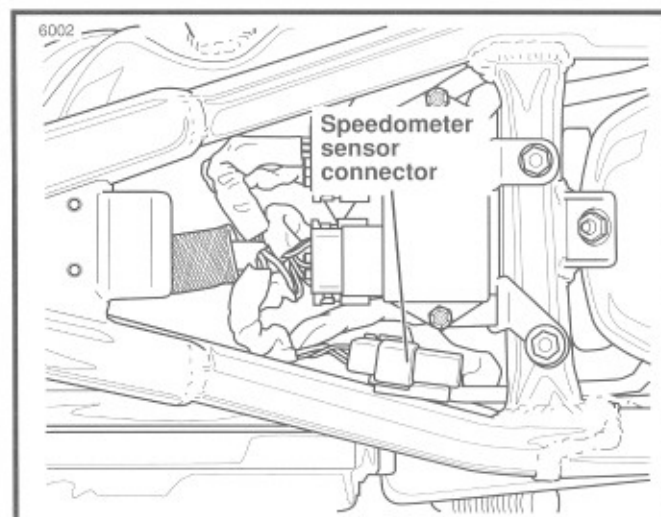

Figure 7-93. Speedometer sensor connector (1200S shown)
3. See Figure 7-93. Push the 3-place connector [65] located on the frame underneath the seat forward to dislodge connector from t-stud and disconnect the connector. Cut the cable straps that retain sensor wires to main harness bundle.